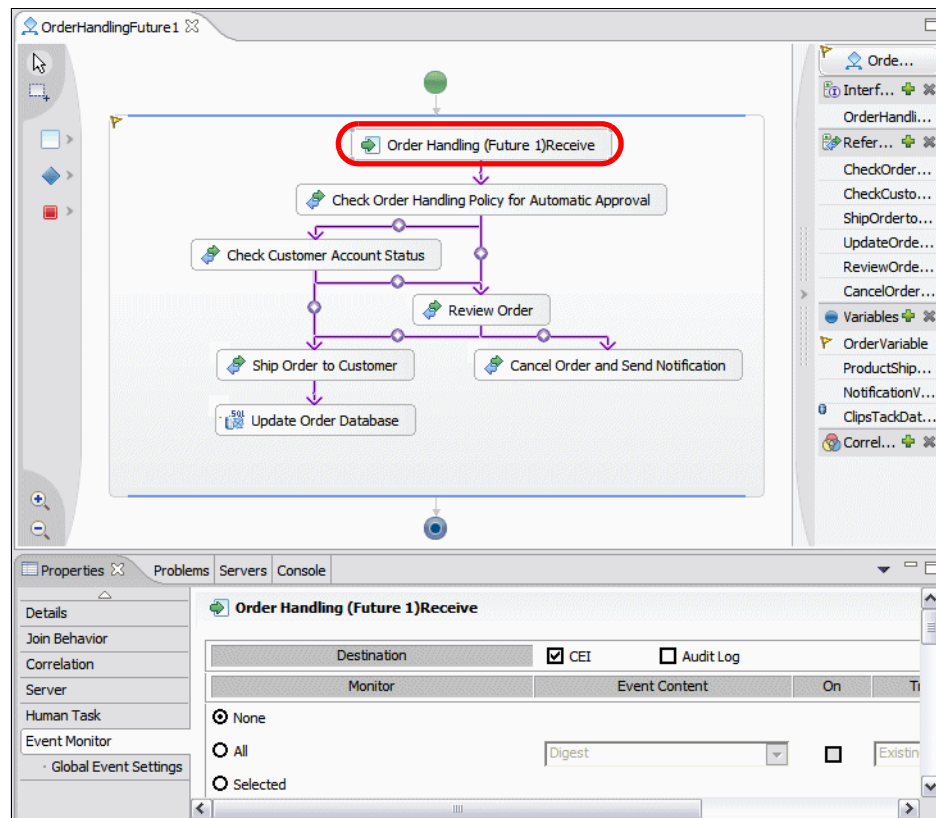

Figure 12-9 Event Monitor for an activity
- ▶ Select the *OrderHandling(Future1)Receive* element, in the process. In the select Properties view, select *Event Monitor* (Figure 12-9).